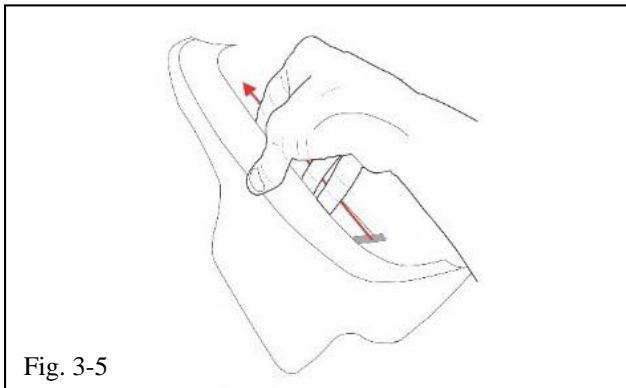

Fig. 3-5
- !** (g) Carefully remove the tape liner on the top portion of the applique by pressing down on the front edge and pulling the rear edge up to gain access to the hidden liner. Once the liner is removed, press the area to adhere the part (Fig. 3-5).